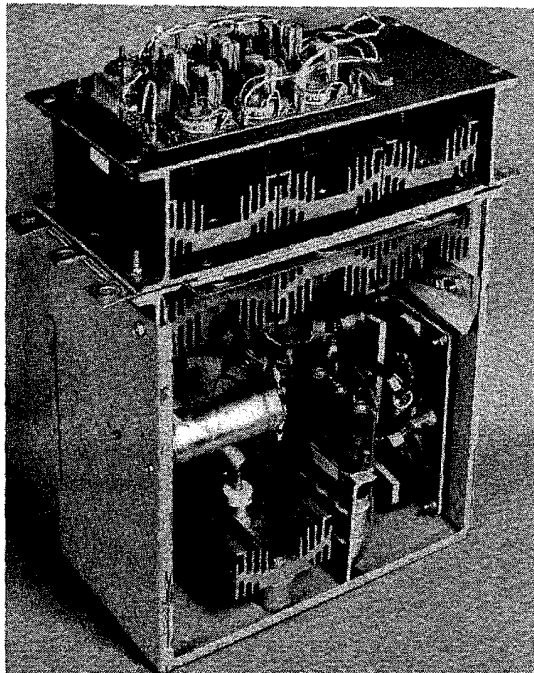
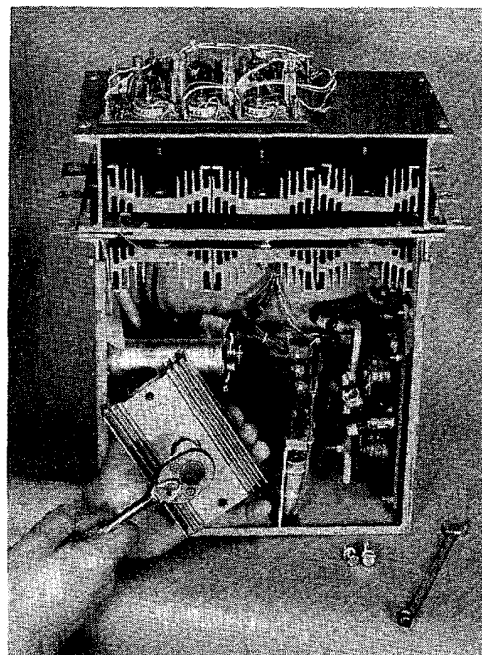

FIGURE 12
FIGURE 17
2. Stand the converter module on its back side on a table. The Pulse Transformer, printed circuit card should be on top. (Normally on the front of the module). See Figure 12.
2. Stand the converter module on its back side on a table. See Figure 12.
3. Remove the P3 connection (Anode) to the Commutating Diode (DC).
4. Remove the two bolts that secure the (DC) diode heatsink to the converter module.
5. Remove the top protective metal plate (2-1/4/20 machine screws). See Figure 17.